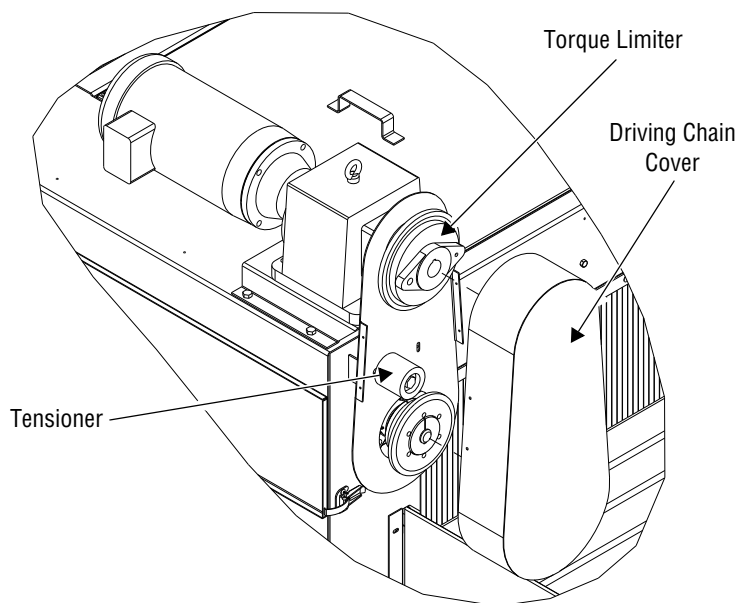

Figure 5-8. Adjust Dispenser Driving Chain Tensioner
See Figure 5-8.
See Figures 5-8 and 5-9.
2. Remove driving chain cover (see Figure 5-8).